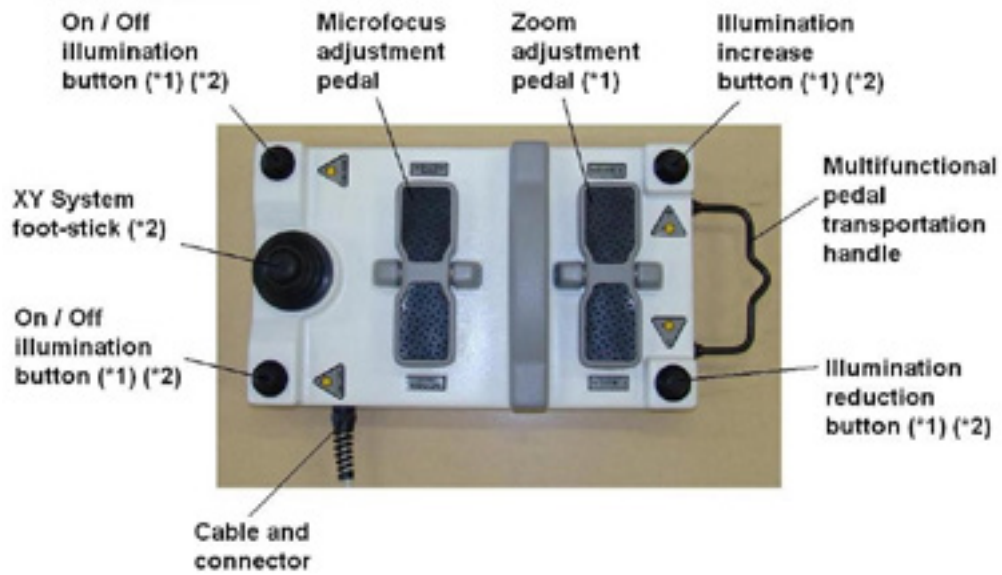

Figure 4: Multifunctional pedal
- Adjust the illumination brightness by turning the button at the Control panel (Figure 5). To control the illumination level by the multifunctional pedal, press one of the two Illumination On/Off buttons, followed by the reduction or increase button (Figure 4).